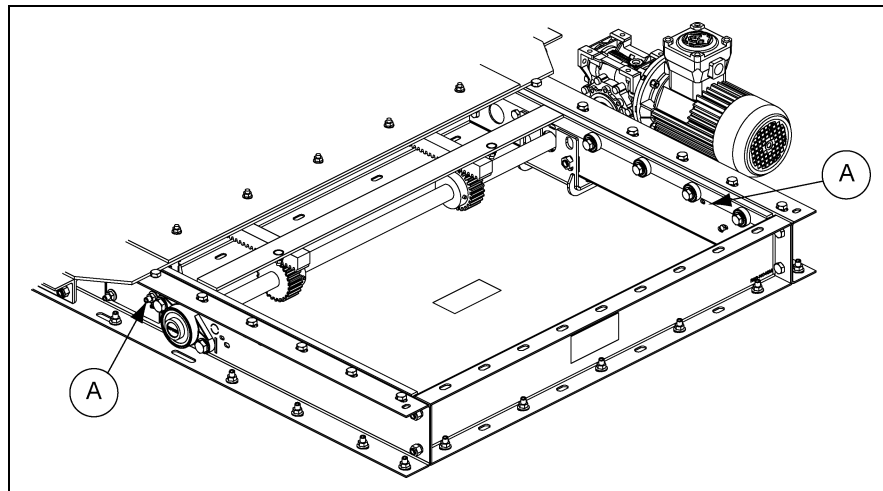

Figure 3F
1. Cross-cut switches are installed on opposite corners inside of gate frame. (See Figure 3F.)